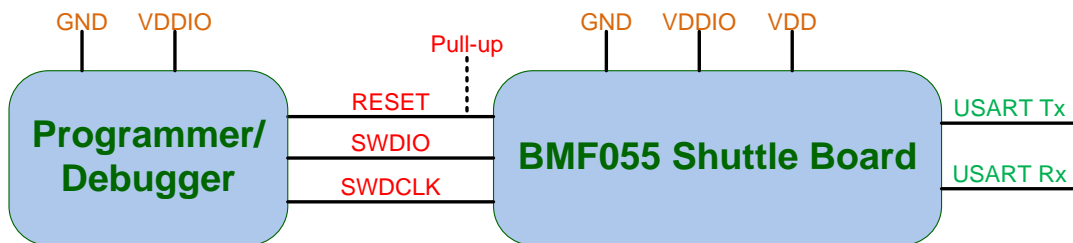

Figure 1 - Minimum Necessary Connections
11. Establish the minimum necessary connections as shown in Figure 1; including power, reset and programmer/debugger.
Figure 1 shows the necessary connections to power-on and program the sensor to run this example. For more information refer to Hardware Platform.